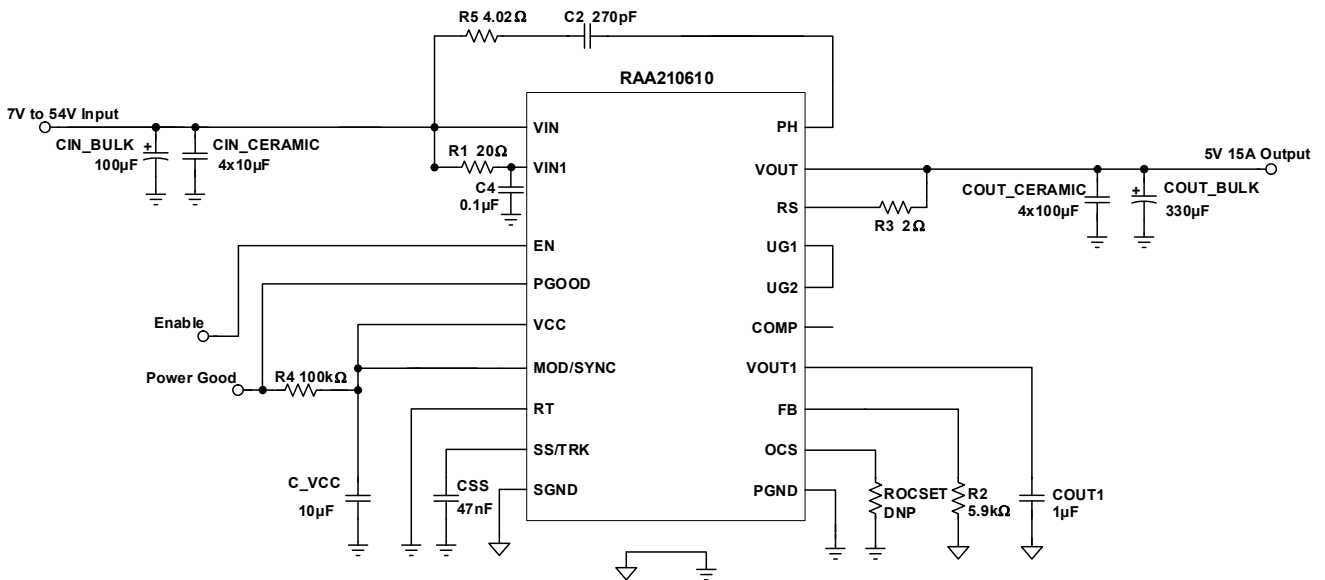

Figure 3.  $V_{OUT} = 5V$ ,  $f_{SW} = 300kHz$ , DEM Mode,  $t_{SS} = 15ms$
**Table 1. RAA210610 Design Guide Matrix (See Figures 3 Through 6)**
**Table 1. RAA210610 Design Guide Matrix (See Figures 3 Through 6) (Continued)**